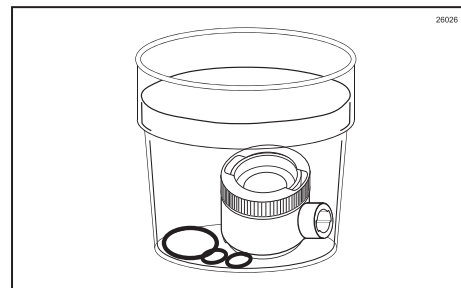

Figure 95
4. Place the Injector Head and the new replacement o-rings in an approved sanitizer solution and soak for at least 1 minute. (See Figure 95.)